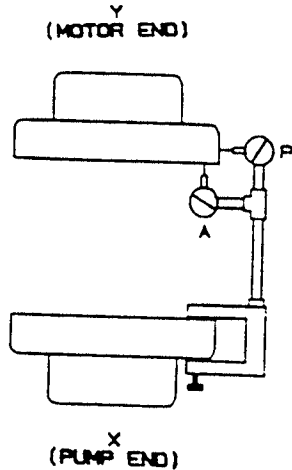

Fig. 6. Dial indicator set-up.
1. Mount two dial indicators on one of the coupling halves (X) so that they contact the other coupling half (Y), see Fig. 6.
A unit is in angular alignment when indicator A (Angular Indicator), Fig 6, does not vary by more than .003" (.076mm) as measured at four points on the coupling periphery 90° apart at operating temperature. There are two methods outlined below which are acceptable to achieve the desired alignment.